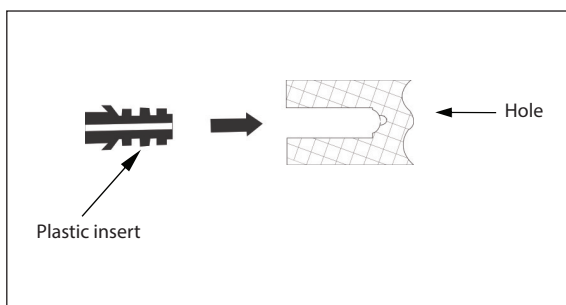

Figure 3
3. Install and fasten the holes with appropriate plastic inserts as shown in Figure 3.
4. Place the water heater on the mounting brackets and fix the wall-mounting with appropriate screws as shown in in Figure 3.